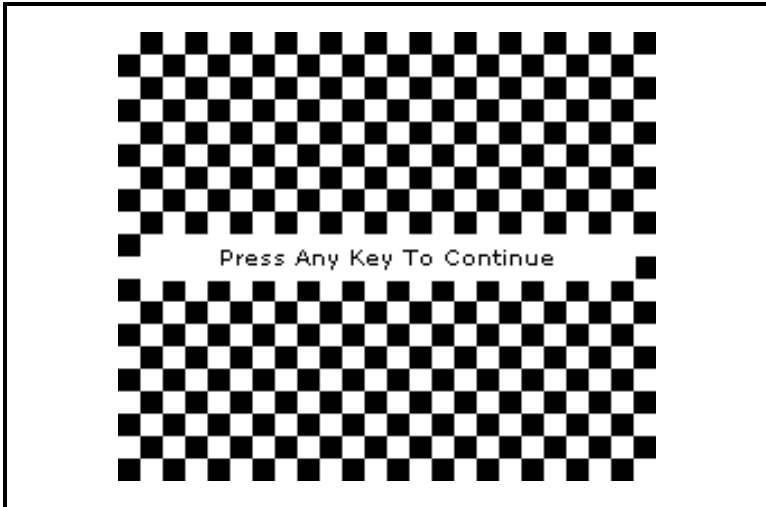

Figure 8-2: A Functioning Test Screen
4. Use the arrow keys to scroll to **Test Screen** and press [ENTER]. A screen with a checkerboard pattern appears as shown in Figure 8-2 below.